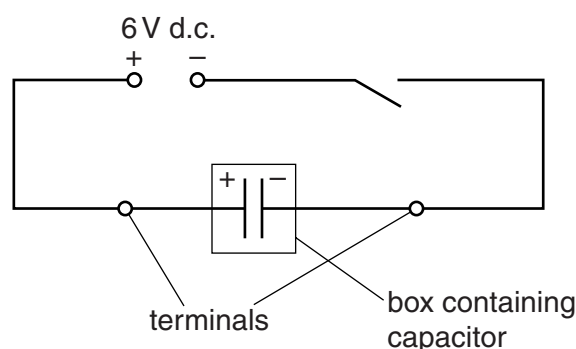

Fig. 1.1
- The power supply, capacitor and switch should be connected as shown in Fig. 1.1, with connections taped to discourage disconnection by the candidate. Supervisors should make sure that the polarity of the capacitor is correct, and that terminals are available as shown for the candidate to make further connections.
- If the apparatus is to be used by a second candidate, then it should be returned to the state shown in Fig. 1.1. The remaining components should be disconnected and laid out on the bench, with all resistors removed from the component holder.